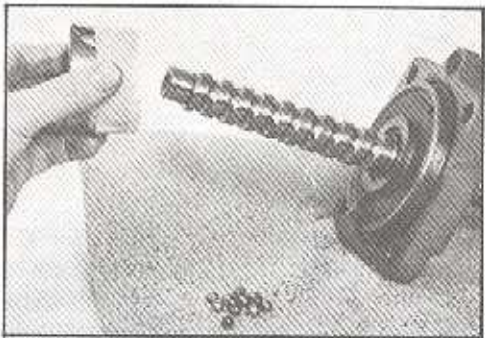

Figure 73
27. If the special ball nut mandrel (GA1913) is not available, turn the ball nut assembly (25A) off the worm shaft (25B) over the cloth work surface to catch the balls (25D and 25E) that will fall out. SEE FIGURE 73.